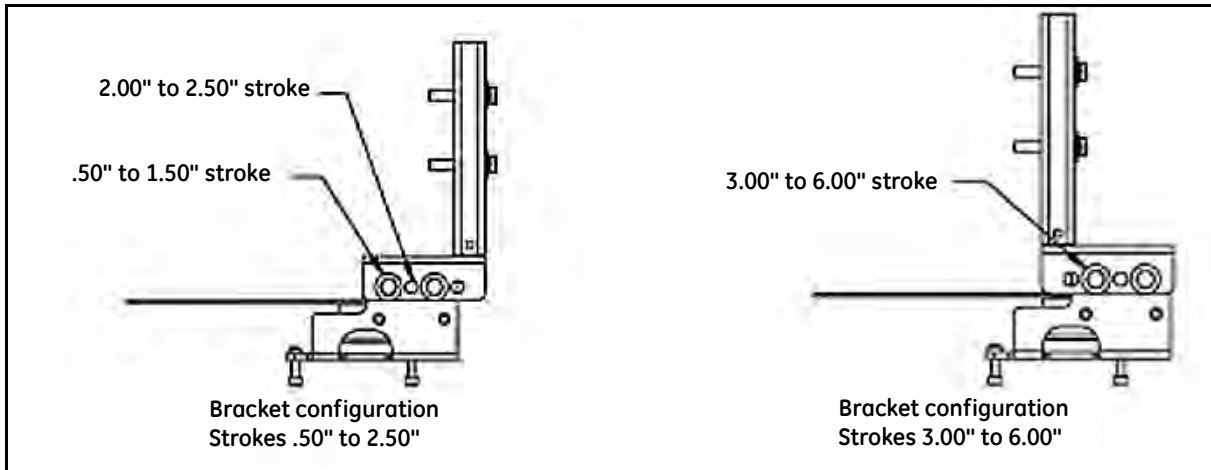

Figure 29 Bracket Configuration Strokes .5 - 2.50" and 3-6"
4. Mount take-off bracket to stem block at angle which keeps turnbuckle assembly parallel to stem (Figure 29) using: